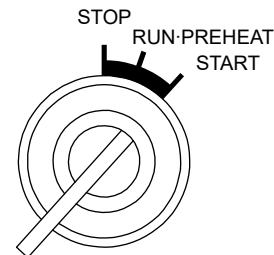

Figure 26. Starter Switch (START)
4. After the Preheat lamp turns off, turn the **Starter switch** clockwise to the **START** position (Figure 26) to start the engine. When the engine starts, release the key switch. The key will automatically return to the **RUN** position (Figure 24).